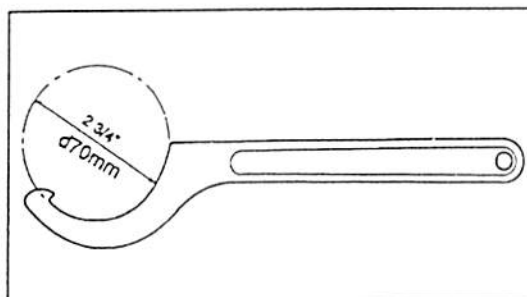

Fig. 18. Tighten the bearing by turning the axle nut clockwise with a  $2\frac{3}{4}"$  hook spanner until the right clearance is achieved.
5. If the clearance is greater than 0,02–0,03 mm (0.0008 to 0.0012"), remove the washer by opening the bolt #5 and fold the tab of the securing ring #3 from the notch of the axle nut #4. The bearing is tightened by turning the axle nut #4 clockwise with a 70 mm or  $2\frac{3}{4}"$  hook spanner (fig.18.) until the right clearance is achieved. Do not tighten by hammering at the axle nut.